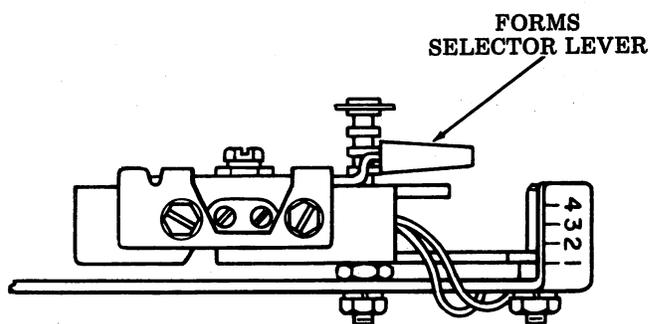

Fig. 13
2.11 The form selector lever (Fig. 13) when operated positions the form out contact in relation to one of four tracks on the belt depending on the particular form length desired.